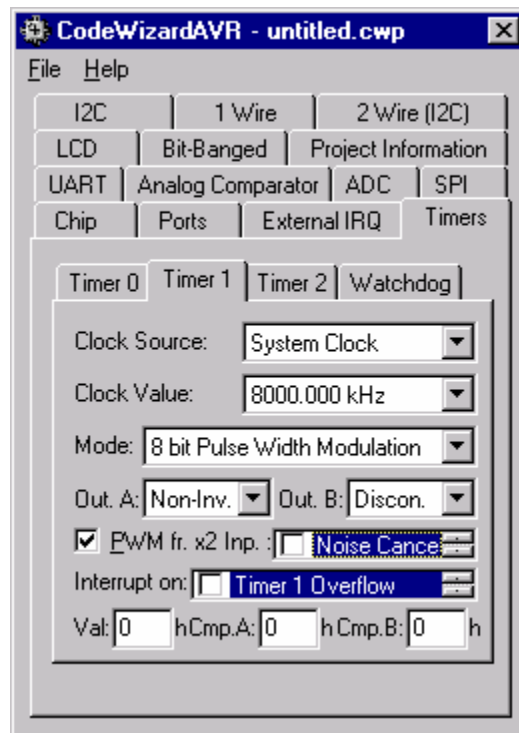

Figure 4: Timer1 (PWM)
**6) Set the Timer 1 options as shown in Figure 4**